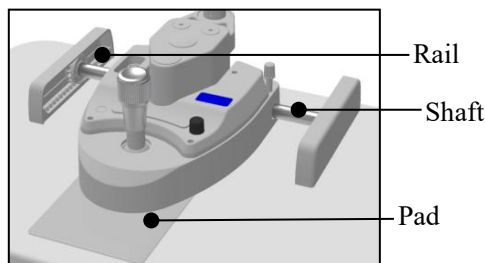

Fig.4.1.2
- ② Cleaning the pad, rails, and shaft: If the pad, rails, and shaft are not clean, the horizontal and vertical movements will not be smooth. Wipe clean with a clean soft cloth (see Figure 4.1.2).